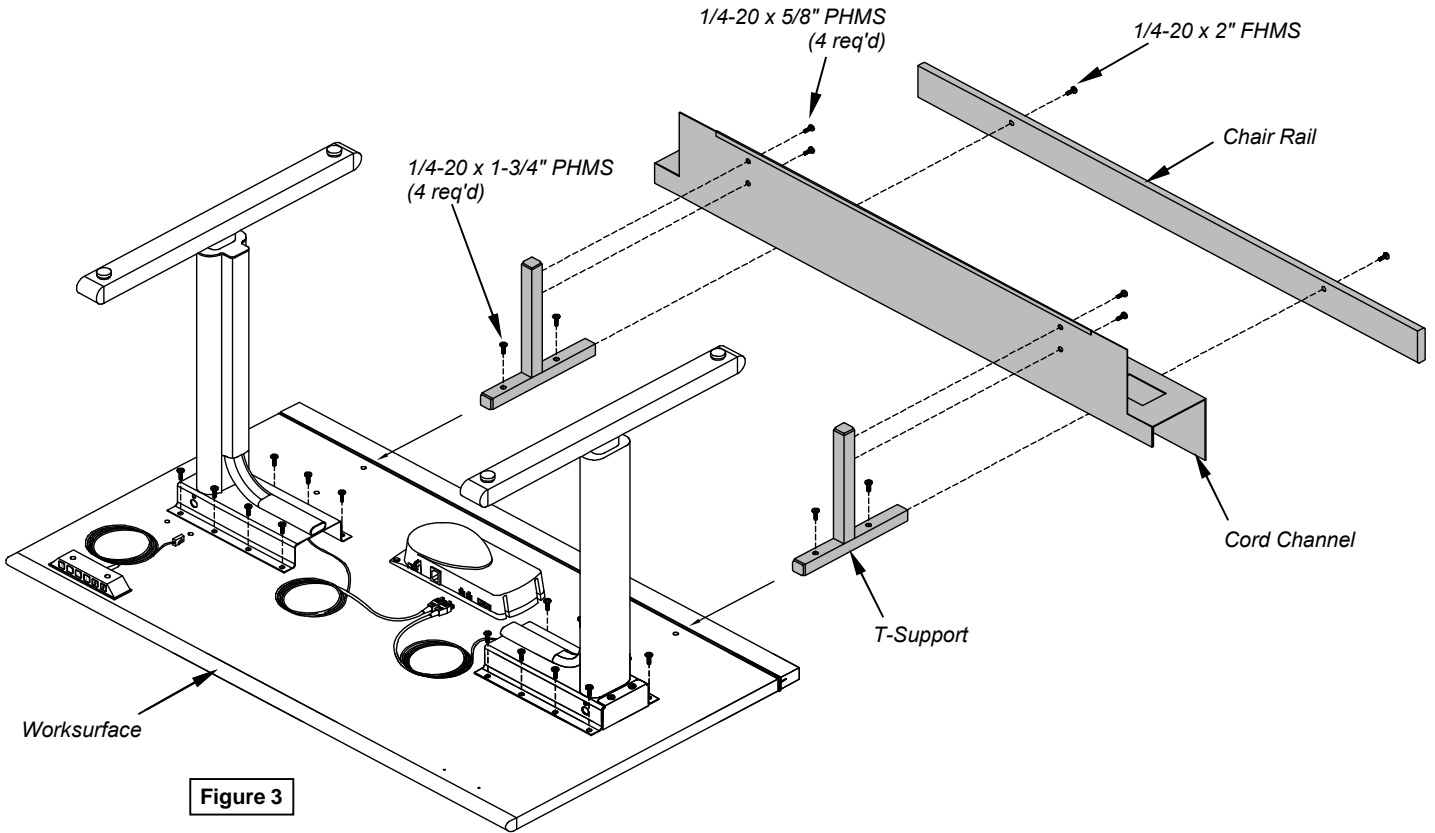

Figure 3
- A. Attach the T-supports to the worksurface using (4) 1/4-20 x 1-3/4" PHM screws. **Figure 3.**
- B. Attach the cord channel to the T-supports using (4) 1/4-20 x 5/8" PHM screws.
- C. Attach the chair rail using (2) 1/4-20 x 2" FHM screws. *(These screws will attach to the T-support ends.)*